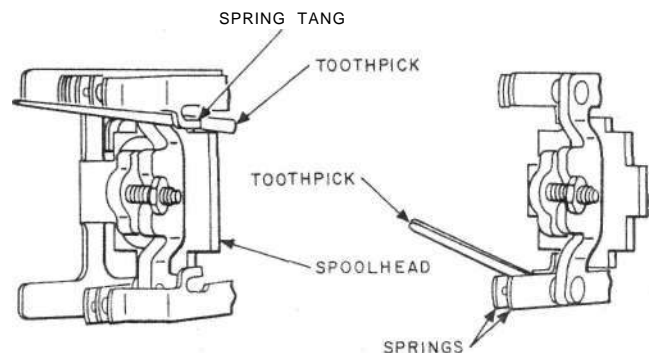

Fig. 46—Blocking Contacts of E- and Similar-Type Relays
5.06 Blocking Contacts of E- and Similar-Type Relays: Fig. 46—Block normally closed contacts open or normally open contacts so they cannot close by inserting a toothpick between the springs or between the spring tang and the spoolhead.